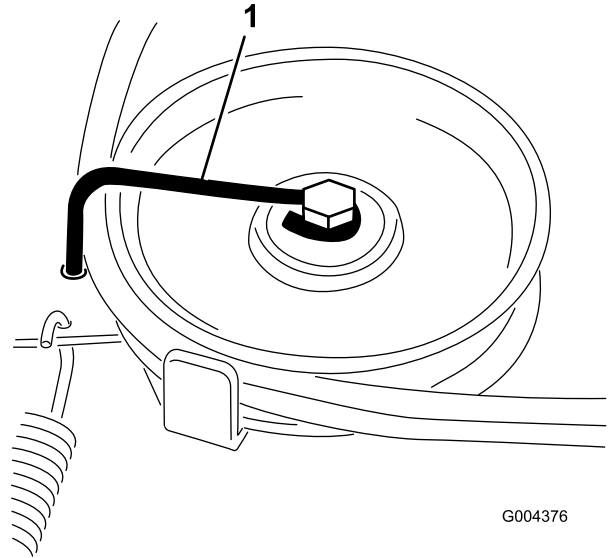

Figure 5
8. Install the new belt keeper onto the pulley (Figure 5).
10. The ring end of the new belt keeper goes between the screw hex head and the washer (Figure 5).
Note: The end of the belt keeper sets in the threaded hole vacated by the screw and spacer removed in step 1. Ensure that the new belt is between the pulley and belt keeper (Figure 5).